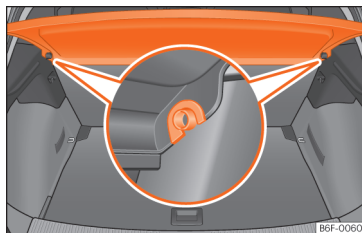

Fig. 143 In the boot: removing and installing the shelf.
- Remove the rear shelf from the side supports >>> Fig. 143 by pulling it upwards and then take it out.
- Insert the cover horizontally so that the “recess” fits onto the axis of the supports >>> Fig. 143 and press down until it engages.